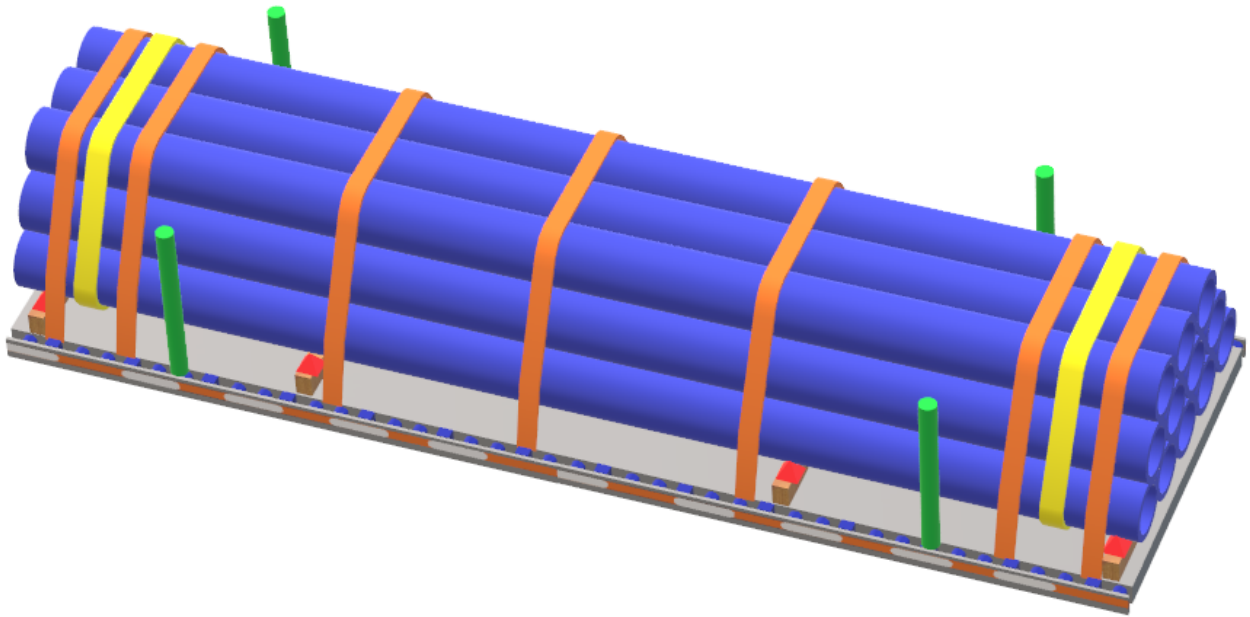

Figure 1: Pyramid pipe load showing the chocks (red) pipe stakes (green), choke strap (yellow), and securement (orange) over the load.
1. 2 chains should be crossed over the front of the steel and tightened to prevent forward motion. (Red chains in figure 1)
2. 2 chains should be crossed over the rear of the steel to prevent motion. (Red chains in figure 1)